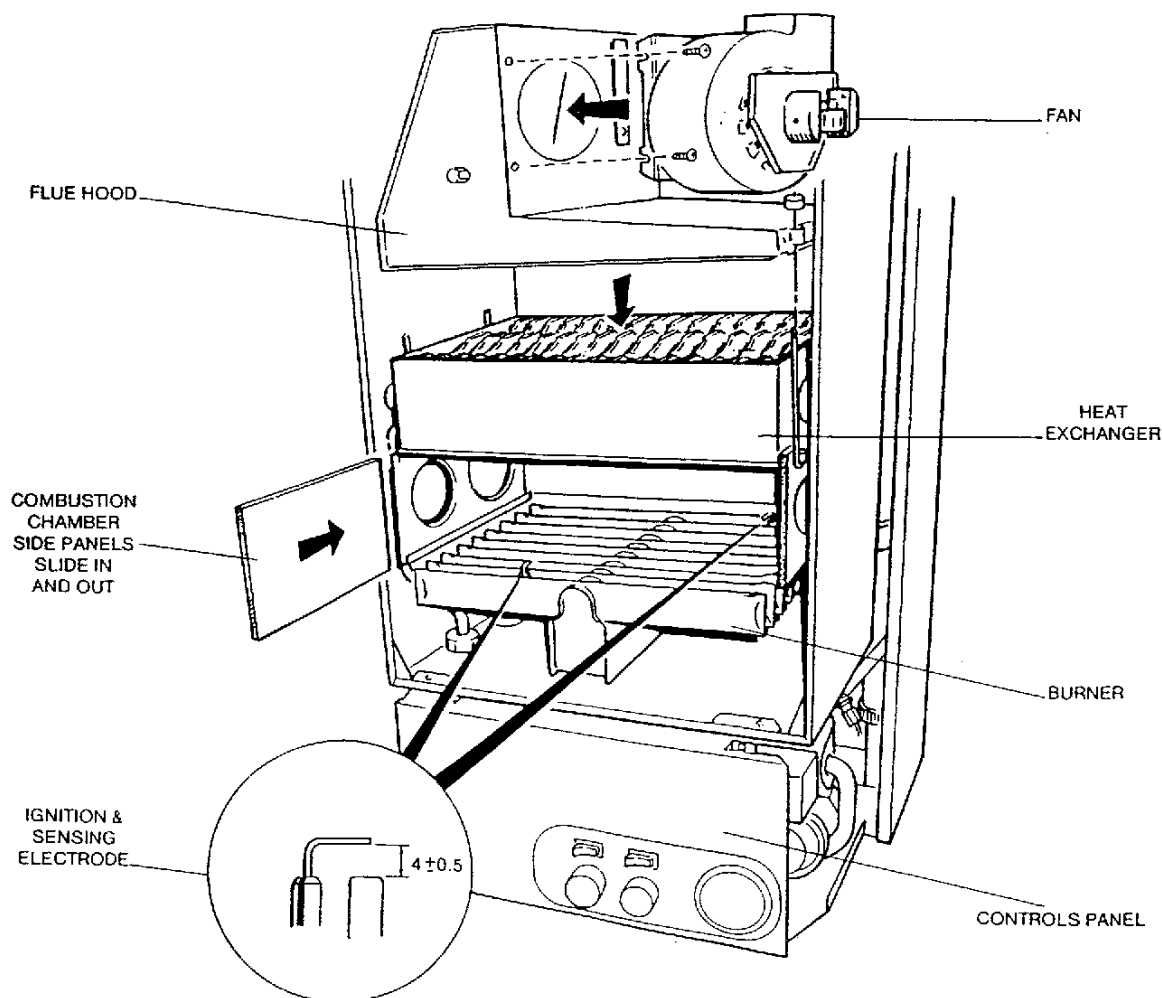

Fig. 21
7. TO INSPECT AND CLEAN THE APPLIANCE (See Fig. 21)
- Inspect the main burner and remove any deposits with a soft brush. Check the electrodes for damage or deterioration. Ensure that the spark gaps are correct to dimensions specified in Fig. 21. Clean or renew as necessary. Do not bend the electrodes as the insulating material may crack
3. SENSOR AND IGNITION ELECTRODE (See Fig. 21)
5. BURNER (See Fig. 21)